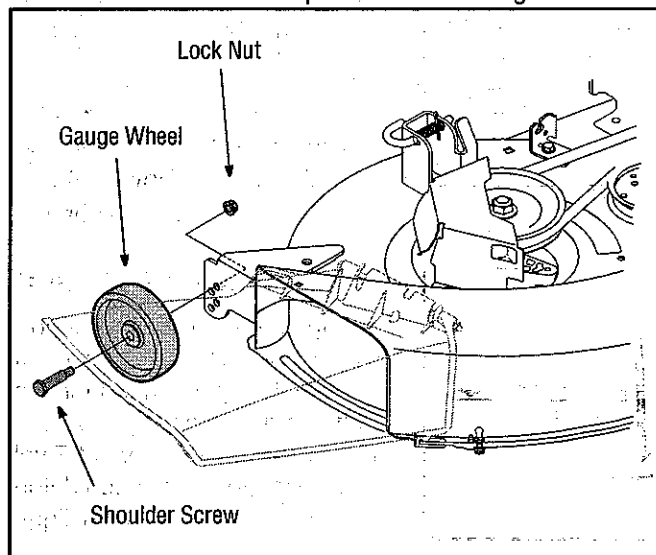

Figure 6
Place the tractor on a firm and level surface, preferably pavement, refer to Figure 6, and proceed as follows:
- d. Insert the shoulder screw with the rear gauge wheel into the index hole that leaves approximately 1/2" between the bottom of the wheel and the pavement. See Figure 6.